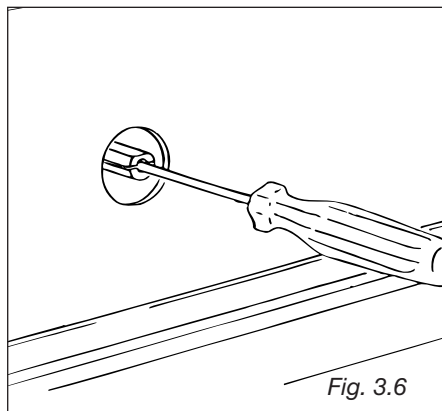

Fig. 3.6
- With a small flat screwdriver turn the screw inside the tap rod to the correct regulation (fig. 3.6).